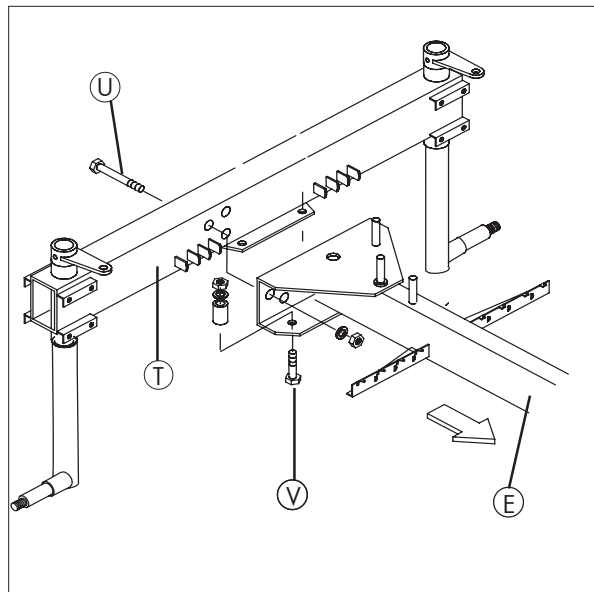

Fig. 3-3
For mounting, see chapter 3.4. and fig. 3-3.
Connect longitudinal support (E) with chassis frame (T) using M16 screws (U) (fig. 3-3). Use the content of bag I.